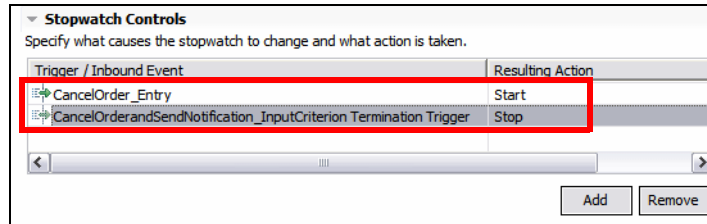

Figure 12-61 Stopwatch controls for activity duration
- ▶ For Stopwatch Controls, add two triggers using the *CancelOrder_Entry* trigger as the start, and the *Termination Trigger* as the stop (Figure 12-61).